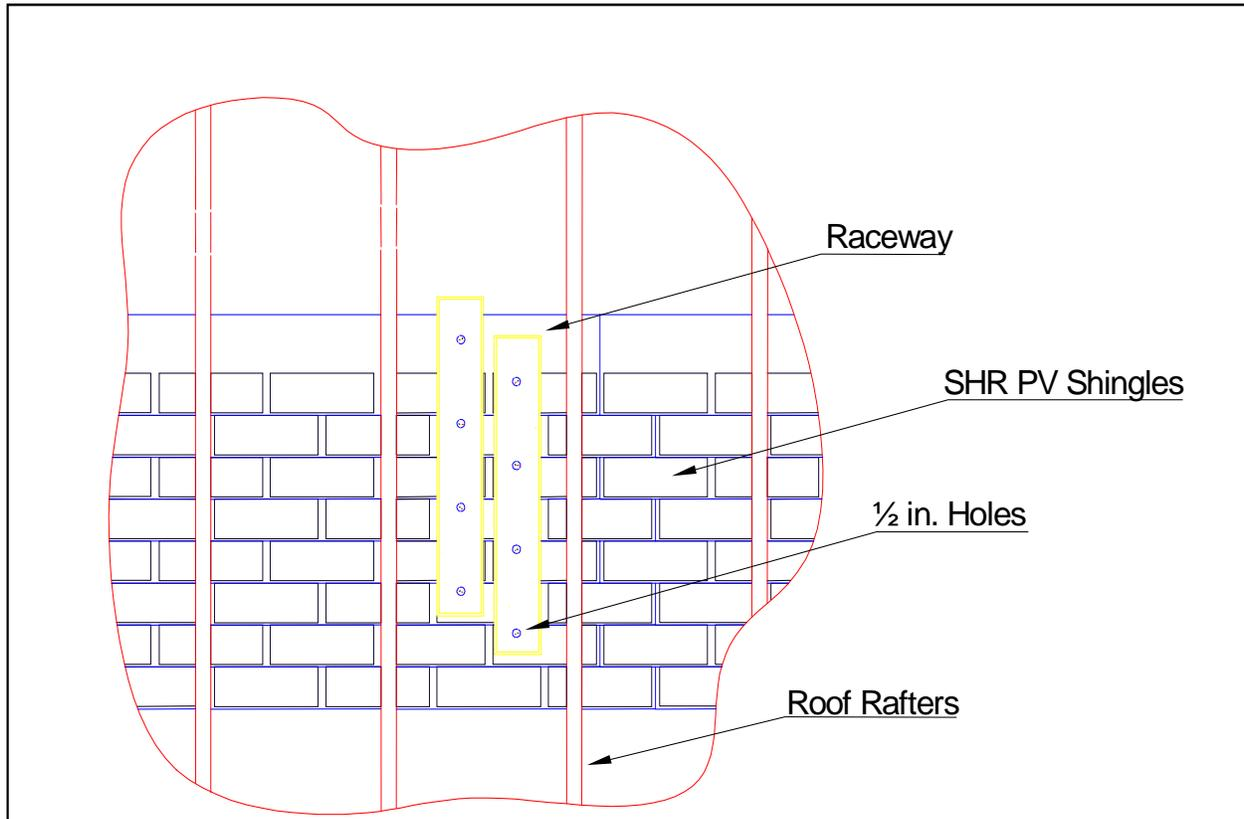

Figure 10.
3.1 From under the deck place bottom part of raceway over the drilled holes and mount to the underside of the decking using 1/2" wood screws (see Figure 10). **CAUTION: Be sure that the wood screws do not protrude through the roof as the PV shingle may be damaged, resulting in a potential shock hazard.**